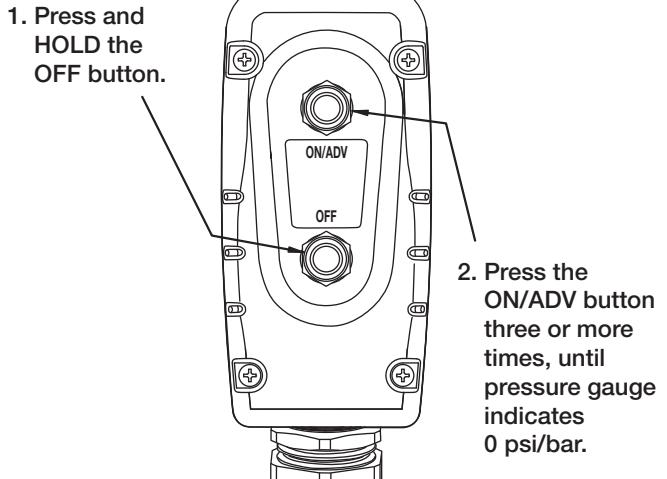

Figure 7, Relieving Pressure (using pendant buttons)
- Press and hold the "OFF" button. See Figure 7.
- While continuing to hold down the "OFF" button, press and release the "ON/ADV" button three or more times, until the pressure gauge indicates zero (0) psi/bar. The hoses can now be removed.